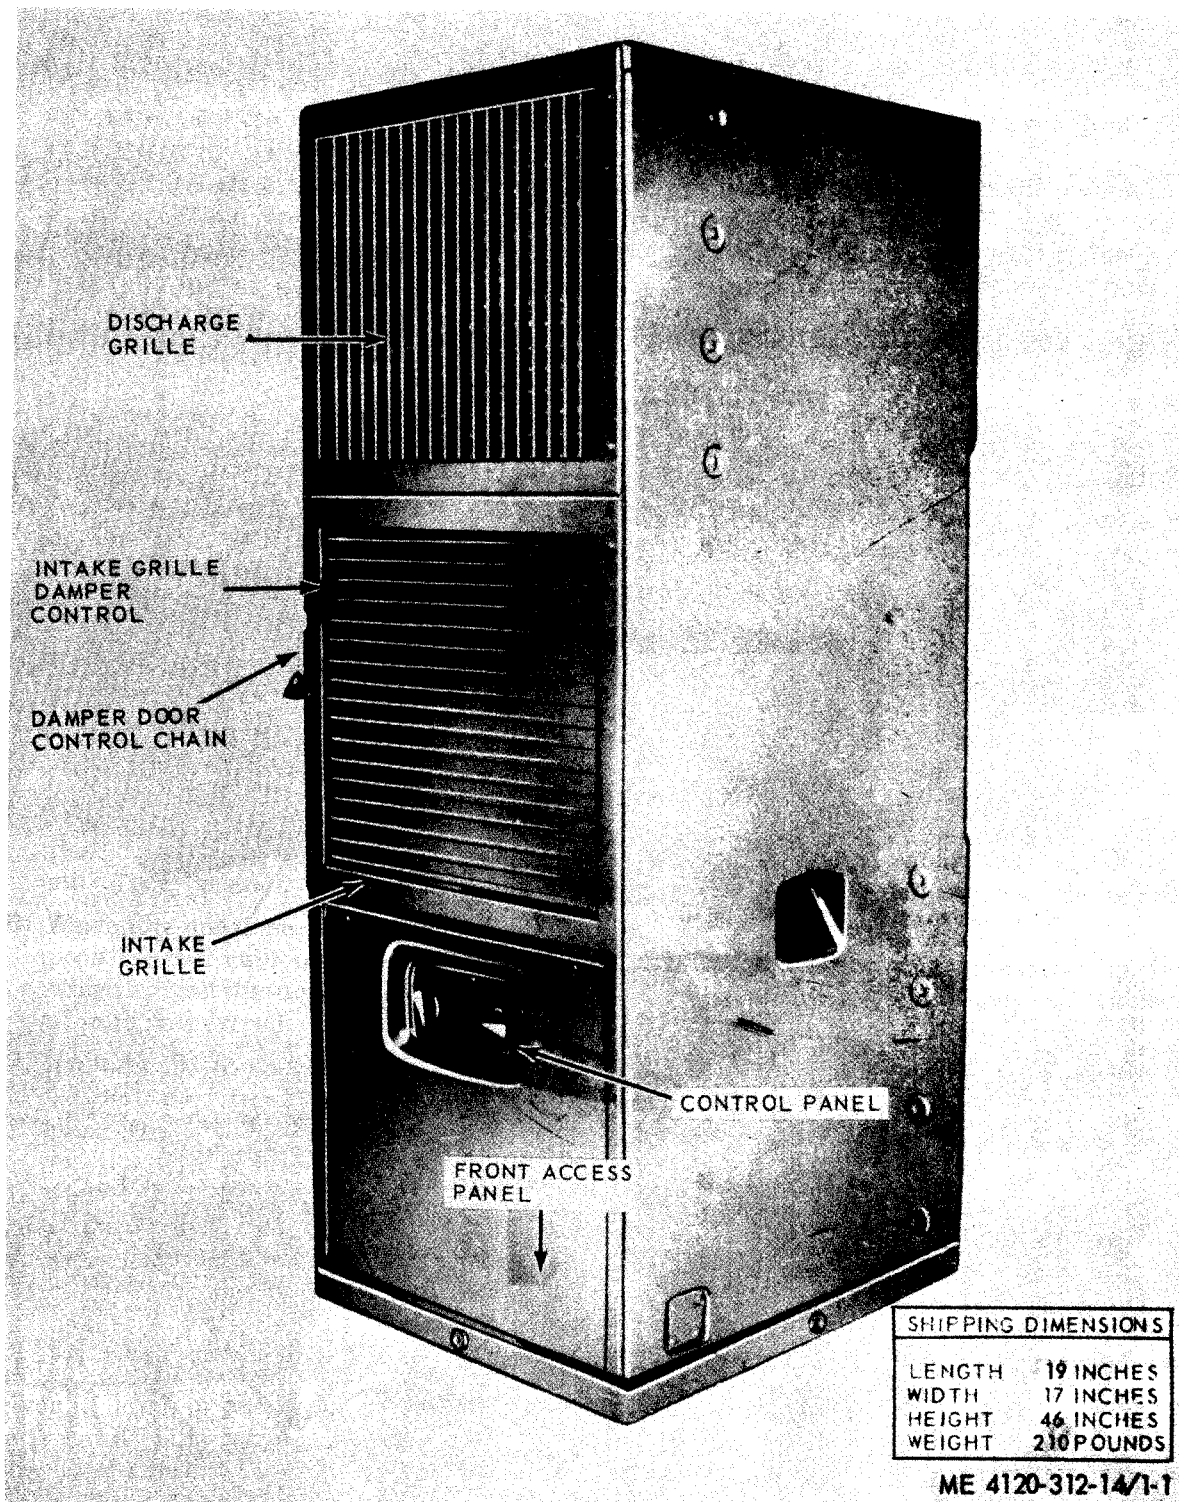

Figure 1-1. Air conditioner, front three-quarters view w/shipping dimensions.
a. *General.* These air conditions (fig. 1-1 and 1-2) are used primarily in van-type enclosures. The units provide filtered, conditioned, or heated air, as required, to maintain the service conditions necessary for the efficient operation of electronic equipment in the vans. The conditioners also provide for the comfort of operating personnel housed within specified vans. The units are completely self-contained, air-cooled, electric motor driven, and designed for continuous operation under varying loads. These units are equipped with internal ducting to the low side of the evaporator fan so that ventilation air from a chemical-biological filter may be supplied by the fan. The units furnish 12,000 BTUH for heating and 18,000 BTUH for cooling.